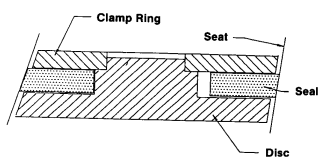

FIGURE 1
**NOTE:** Before starting seal removal operation, observe the clamp ring and seal stack orientation with respect to the disc. The long axis of the elliptical seal has one end that is angled greater than the other with respect to the disc face. (See Figure 1) It is important to understand this so proper reassembly can be accomplished to match the identical valve seat configuration.
With the clamp ring off and set aside, the seal stack is in full view. Notice how the seal stack is oriented, the angled sealing surface slopes down and out on the side with the greater angle. The side with the lesser angle slopes down and in. (See Figure 1) This is important to understand because it is possible to install the new seal stack upside down. Lift the seal stack off the disc and set aside. In all cases the gasket under the seal stack will need to be replaced. Remove any gasket remaining on the disc before a new seal assembly is used.